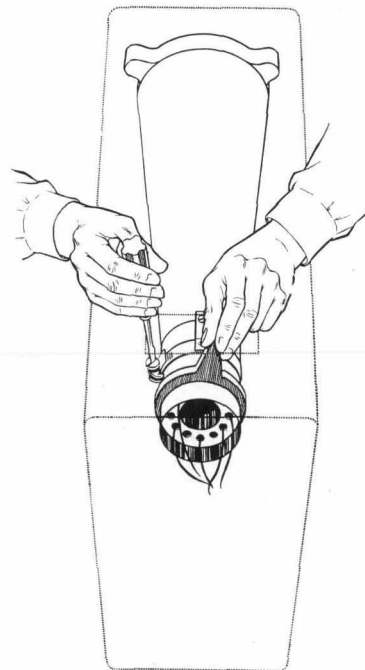

Fig. 14. Crt socket is provided with positioning lever to facilitate angular positioning of tube.
- The crt is provided with a lever so that angular positioning of the tube can be adjusted very easily (Fig. 14).
This arrangement is shown in Fig. 14. The tube socket is circumferentially clamped with a simple clamp which can be loosened or tightened by one hand with a screwdriver. In addition, a lever is provided on the crt socket so that the tube can be rotated easily with the other hand. This arrangement both simplifies accurate tube orientation and makes it possible to orient the tube in a matter of seconds. The procedure can be followed safely while the tube is turned on.